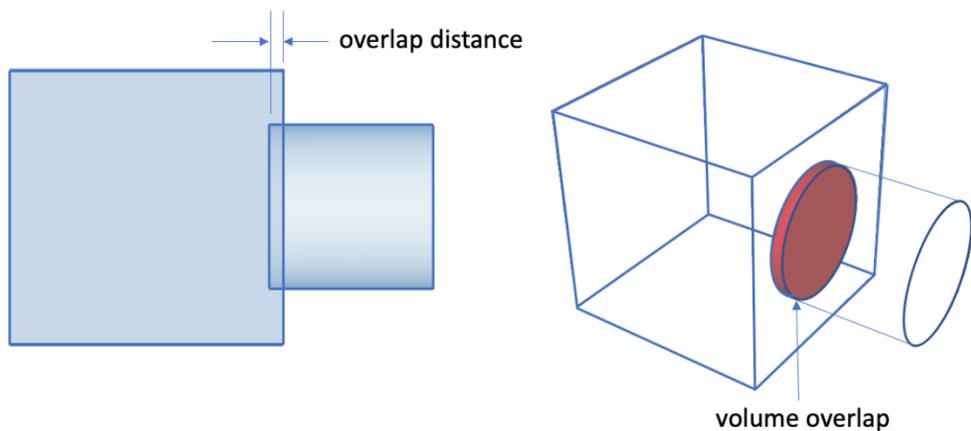

Figure 14. Volume Overlap Example
- Volume Overlaps** - Lists volume pairs that are overlapping. Figure 14. shows an example of a volume overlap. Overlapping volumes can result in sliver surfaces and bad element quality if they are not resolved prior to imprinting and merging. Overlaps can be displayed with the context menu item, **Draw Volume Overlap** which displays the overlap region in red. The remove overlap command or tweak surface replace commands can often be used to correct overlaps.